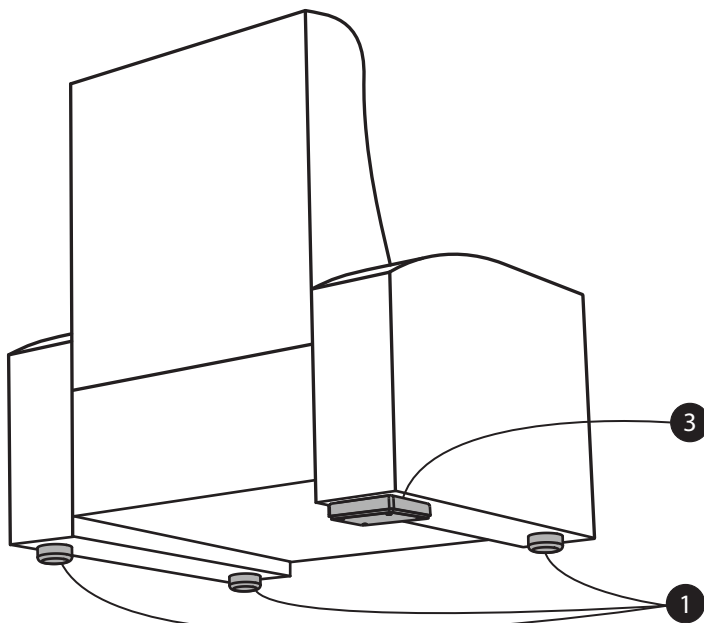
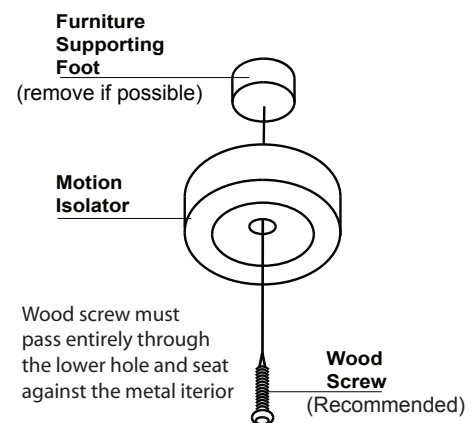

Figure 7
Figure 8
Tip seat(s) forward to access the underside. If possible, remove all of the furniture supporting feet. Position three Motion Isolators in place of the front supporting feet and one rear foot (ref: fig. 7). Orient each Isolator such that the metal threaded hole is close to the seat. Use the supplied #8 wood screw to secure the Motion Isolators. A 1/8 inch pilot hole may be necessary. In some situations it may be possible to secure the MIS with the 1/4-20 threaded hole and a 1/4-20 bolt (not supplied). If removal of the furniture feet is impractical, simply place the Motion Isolators under the supporting feet.(ref: fig. 8).
Place the T108S Actuator under the chair in place of a rear supporting foot. (Actuator may be placed under the rear or front feet, though rear feet may afford the Actuator more protection from errant objects.) If the chair's supporting feet are not removed, place the rear foot on the center of the T108S Actuator. Orient the Actuator such that the binding posts face towards the front of the couch or chair (ref: fig. 7) to avoid damage to binding posts from foot traffic.
**For Example: A 3-seat row with 4 total armrests (two "shared" armrests) requires two (2) T108SS Dual Actuator Motion Systems (four (4) T108S Actuators and four (4) Motion Isolators)**
**1. Install Motion Isolators:** Per standard installation instructions (ref: fig. 8 and 11).
**2. Connect Actuators to Amplifier(s):** If using a Crowson Tactile motion amplifier, please refer to the amplifier Owners Guide. In multiple seat installations, it is often necessary to employ more than one amplifier. It is possible to "stack" amplifiers in order to share the input signals between two (2) or more amplifiers. This will require the use of a line-level multi-channel audio distribution system or the use of RCA "Y" adapters. Please consult with your Crowson Authorized Dealer or a qualified Crowson technician for assistance.